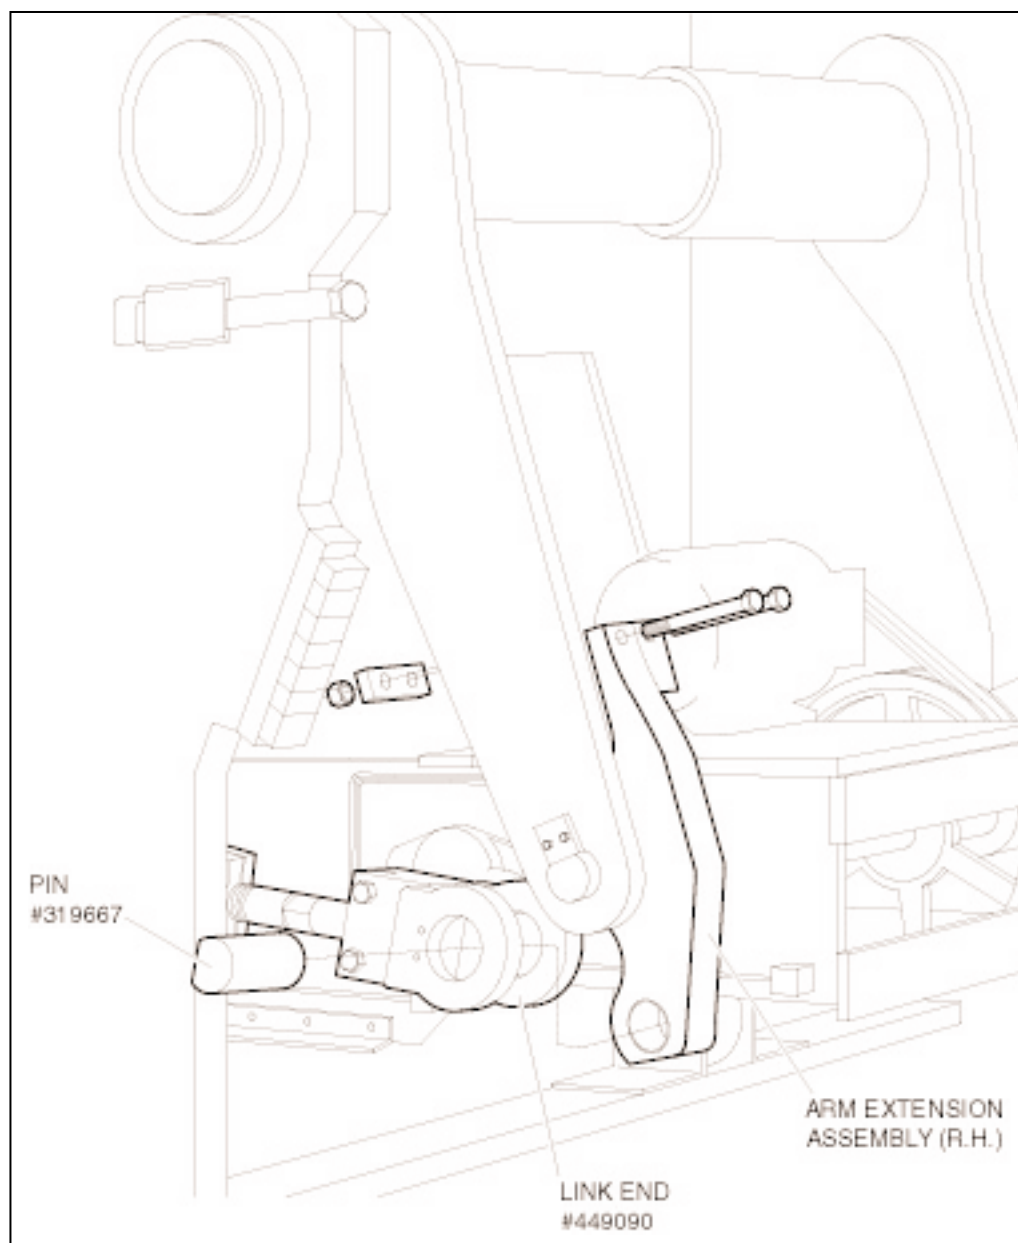

Figure 19.5 INSTALLING NEW LINK END #449090.
19.1.4 Remove rear link ends #355843 from feedbox linkages and install link end #449090 as shown in figure 19.5 below.